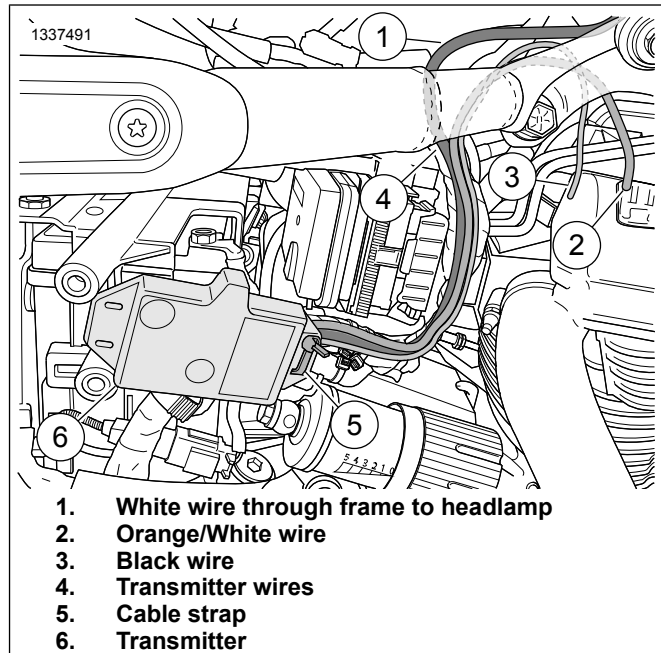

Figure 9. Transmitter Mounting and Wire Routing (2018-Later Softail)
2. See Figure 9. **On the transmitter:** Cut the orange/white wire (2) to be the same length as the black wire (3). Remove cut orange/white wire from sheath.
- a. Place transmitter (6) in front of main wire harness, mounting at a near horizontal position. Wires exiting the housing should be at top and routed inward toward vehicle components.
- b. Install cable strap (5) into front slot of transmitter housing.
- d. Tighten cable strap (5).
4. Tuck transmitter wires (4) behind the main harness wires. Follow main harness wires around ABS/HCU module and under the front of the seat.